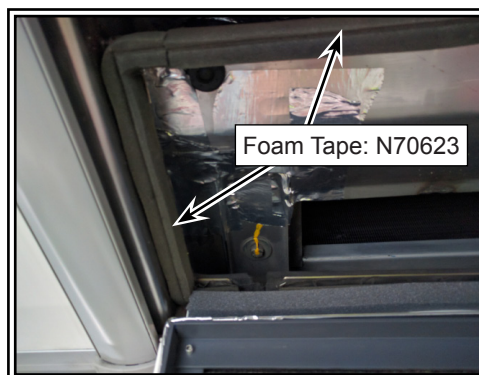

Figure 3 - Installation of Foam Tape
- 1.5. Inspect seal integrity around the perimeter of the structure and replace if missing, damaged or loose (see Figure 3).